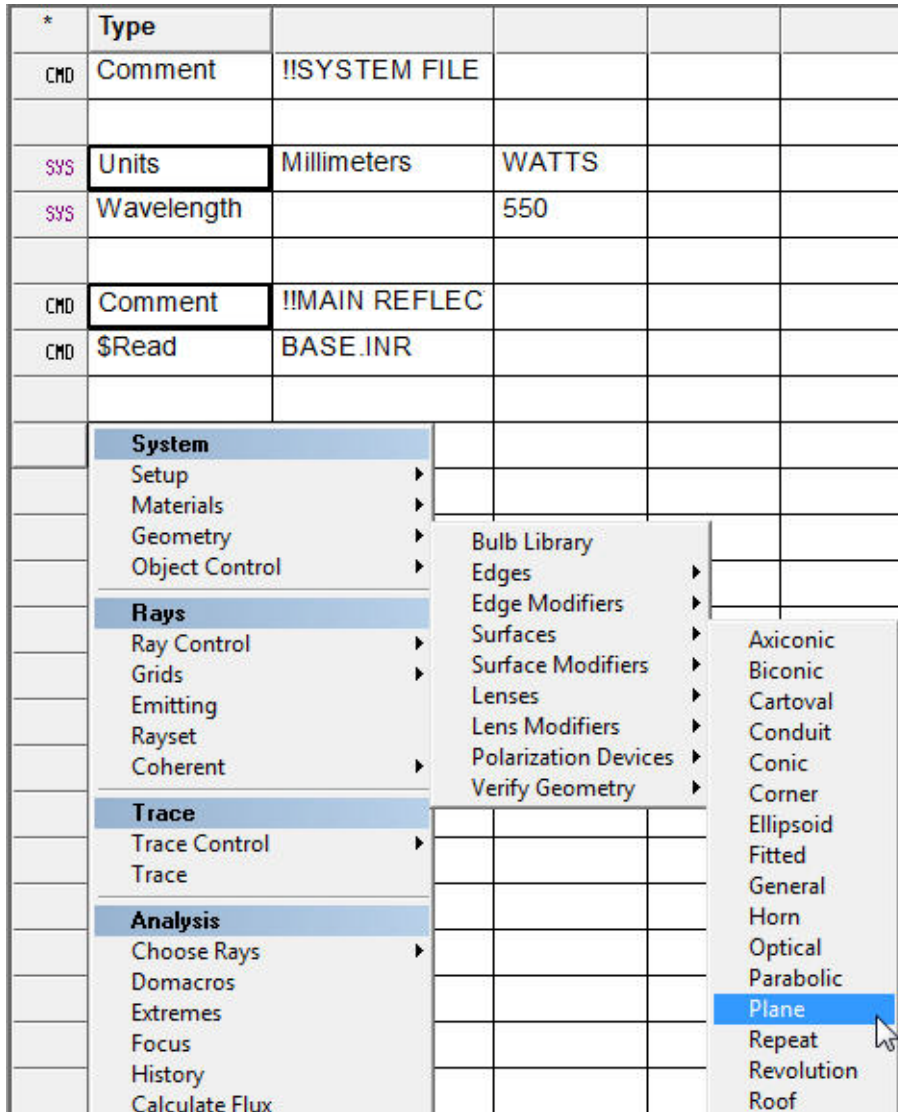

Figure 31 Inserting a Plane
- 24 Double-click a cell in an empty row of the Builder. Under **System**, click Geometry> Surfaces> Plane. See Figure 31.